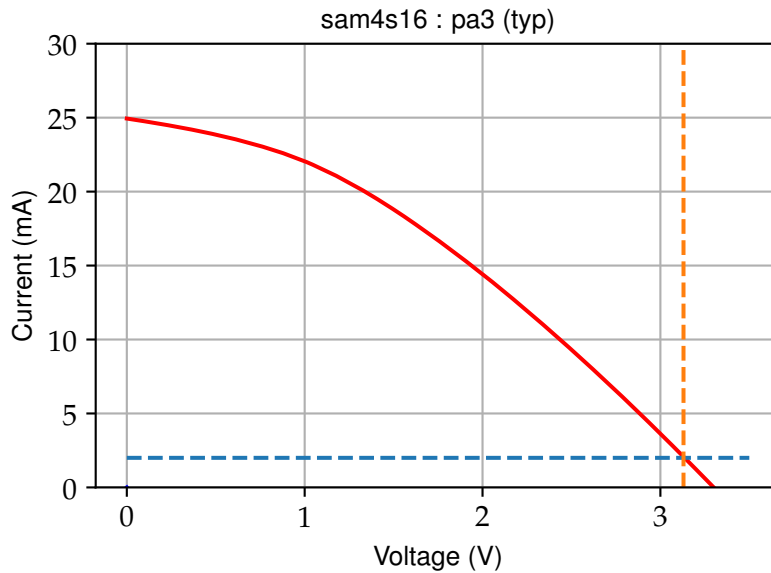

Figure 6.18: SAM4S typical output current versus voltage for pin PA3 showing output voltage for 2 mA source current.
can be found from the IV curve for the SAM4S, see Figure 6.18. From inspection of the curve, for $I_o = 2 \text{ mA}$, $V_o \approx 3.15 \text{ V}$, and so
12. With reference to Figure 6.18, determine the required resistance R to set the current to 5 mA through an LED with a forward drop $V_f = 2.5\ \text{V}$.
13. With reference to Figure 6.18, what is the maximum current that can be sourced to an LED with a forward drop $V_f = 2.5\ \text{V}$.